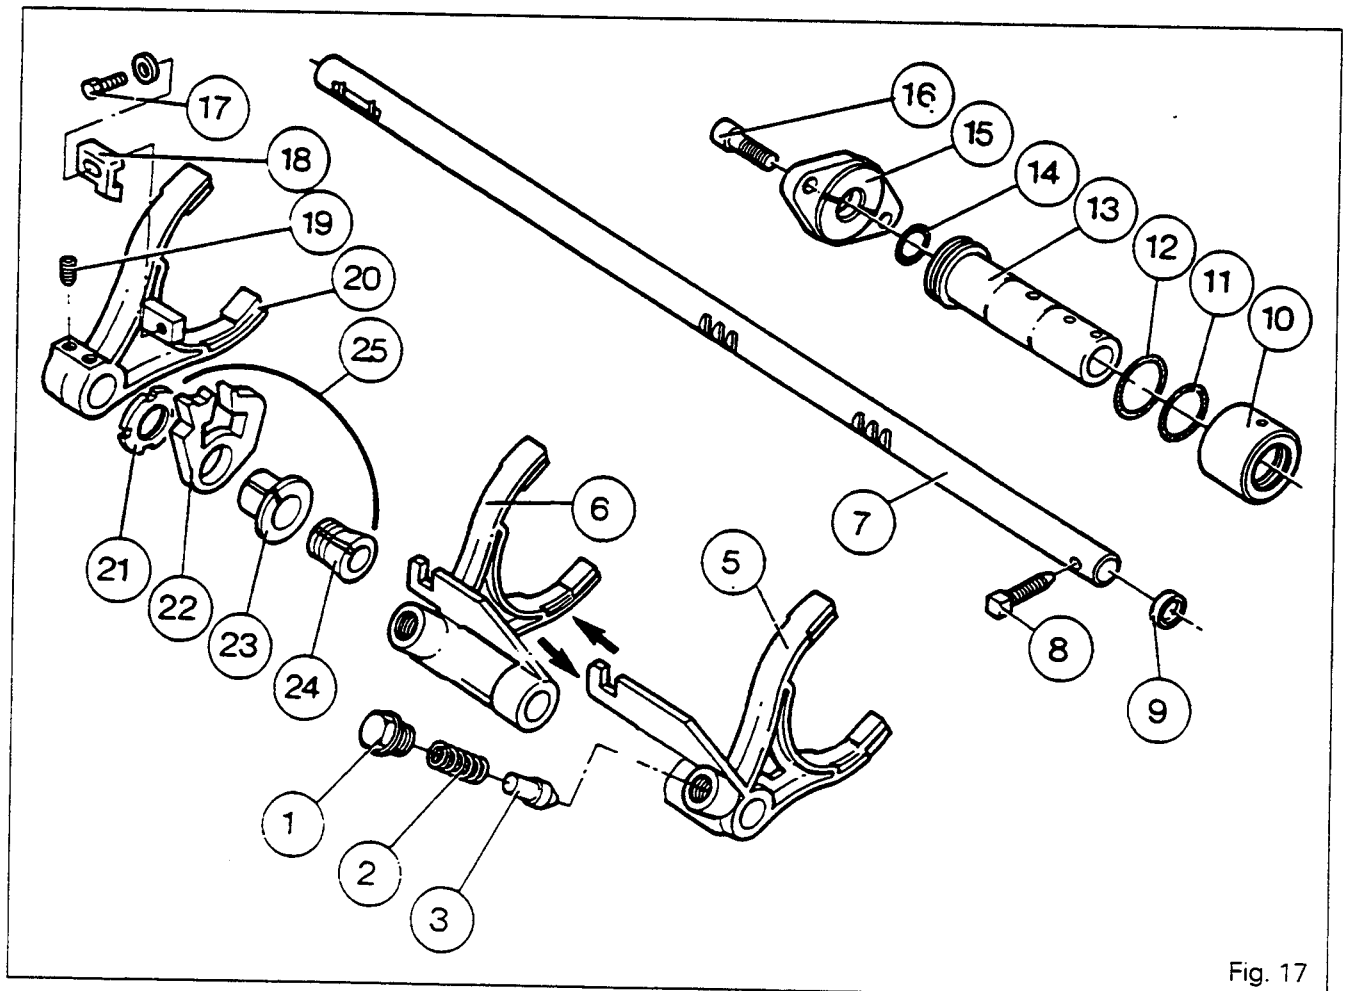

Fig. 17
F. Reassembling the guide rail and forks (Fig. 17)
64. Check that the ports in the Hare/Tortoise cylinder (10) are not blocked.
65. Fit the cylinder (10) equipped with O-ring (11) in the housing.
66. Install the Hare/Tortoise fork (20) in the synchromesh.
67. Fit seals (12) and (14) onto the piston (13) and then insert it into the bore in the cylinder.